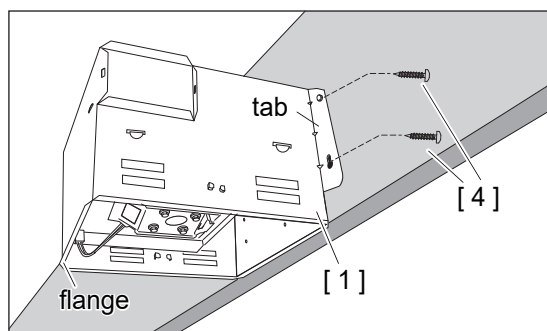

Fig 6
2. Secure the tabs with Long Screws [4] as figure shows. (Fig 6)